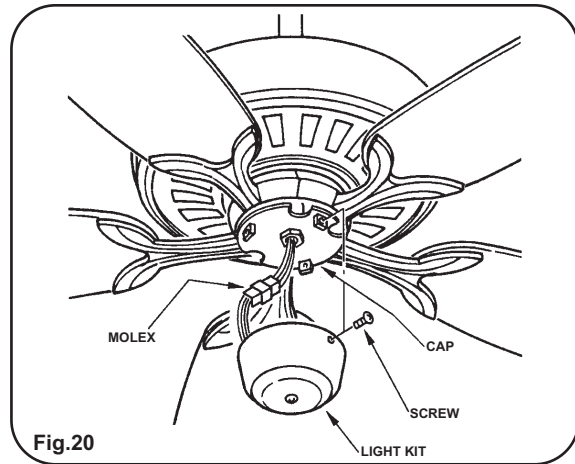

Fig.20
Step 1. Remove the screws from the switch cup plate. Connect the switch cup and fan wire molex connectors, Place the switch cup over the switch cup plate and secure with screws previously removed. (Fig.20).